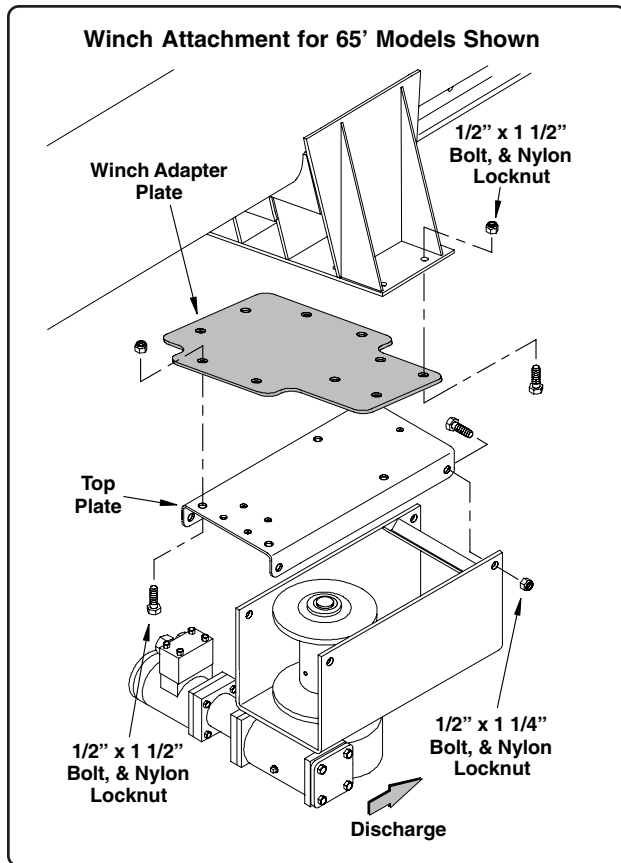

Fig. 39A
For 65' Models: Attach the winch adapter plate to the winch mount using six (6) 1/2" x 1 1/2" bolts and nylon locknuts (See Fig. 39A on Page 51).